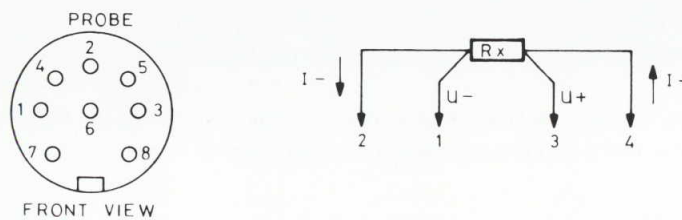

Fig. 15. Connection of the PROBE input for $\Omega 4W$ measurements.
- In the $\Omega 4W$ function the 4-wire test lead can be used. For connector data, see fig. 15.